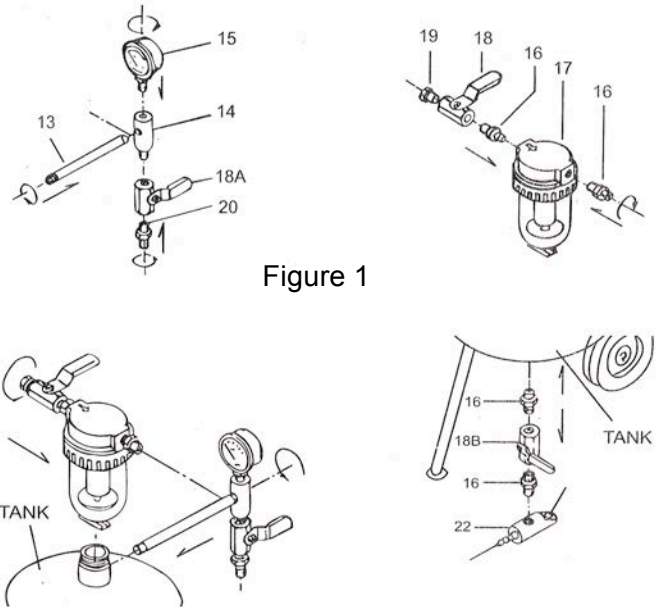
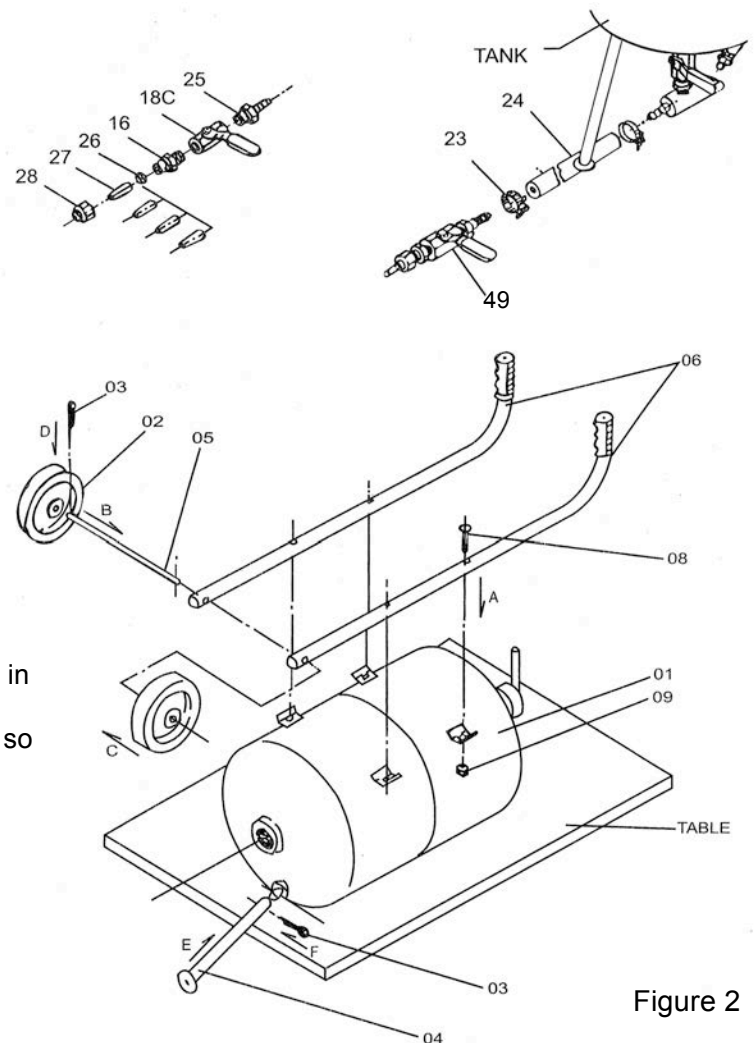

Figure 1
Figure 2
- Follow the diagram at right to install the various components (Figure 1).
- Slide the two hose clamps (23) over each end of the Abrasive Hose (24) surface.
- Press one end of the hose, over the nipple on the Abrasive outlet pipe (22). Press the other end over the Abrasive Safety Trigger Hose Adapter (49).
- Lay the Abrasive Blast Tank on a flat level surface (such as a workbench or table top), with the handlebar mounting brackets facing up. (Figure 2)
- Align the 4 holes in the Handlebar (06) with the four holes in the handlebar mounting brackets.
- Place a Washer onto each of the four handlebar mounting Screws (08) and insert them through each of the four holes.
- Place a nut (09) onto the end of each screw and firmly tighten with a wrench.
- Locate the Wheel Axle (05) and slide it through the axle holes located at the bottom of the handlebar.
- Slide a wheel (02) onto each end of the wheel axle.
- Using snap ring pliers, install a Snap Ring (03) onto each end of the wheel axle. Note: Wheel axle has a groove cut into it - snap ring should rest in this groove so it will not slide off the wheel axle.